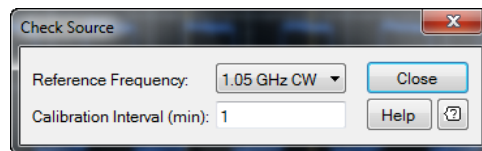

Figure 2-97 Check Source dialog
- 2 The Check Source dialog is displayed as shown in Figure 2-97 to allow you to configure the check source settings.